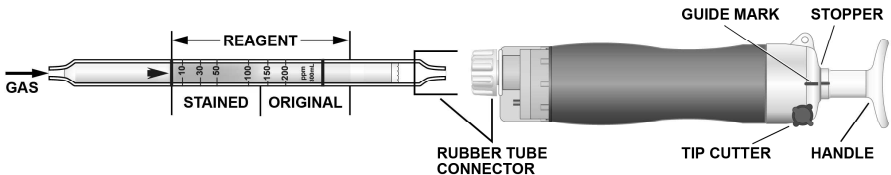

Fig.1
- ② Insert the detector tube into aspirating pump securely as shown in Fig.1. (Arrow mark shall point to the pump.)
- ③ Align the guide marks on the shaft and stopper of the aspirating pump.
- ④ Pull the pump handle at a full stroke until it locks and wait for 1.5 minutes or until the completion of sampling is confirmed with the flow indicator of the pump. (See descriptions about the flow indicator in the instruction manual of the pump.)
- ⑤ On completion of sampling, read the scale at the maximum point of the stained layer.